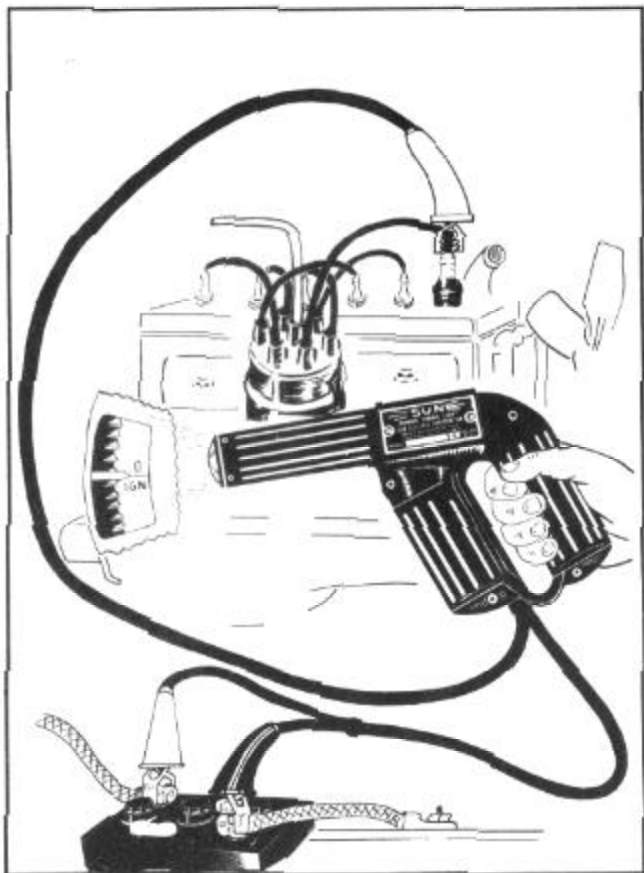

FIGURE 19
1. C o n n e c t the power timing light to No. 1 spark plug and battery as shown in Figure 19.